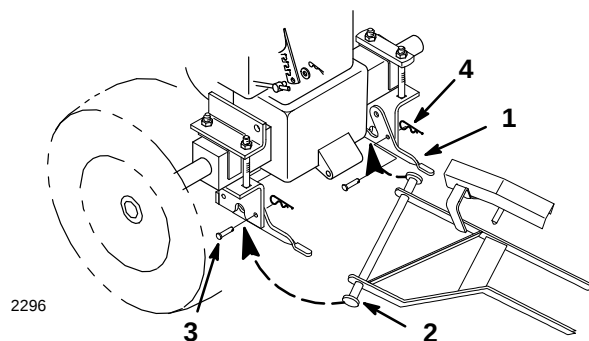

Figure 13
2. Position tiller behind and under rear tractor hitch with idler pulley bracket above right latch lever. Lift latch levers and install frame mounting rod. Center tiller between hitch latches (Fig. 13).
3. Secure latch levers closed with clevis pins and hairpin cotters (Fig. 13).